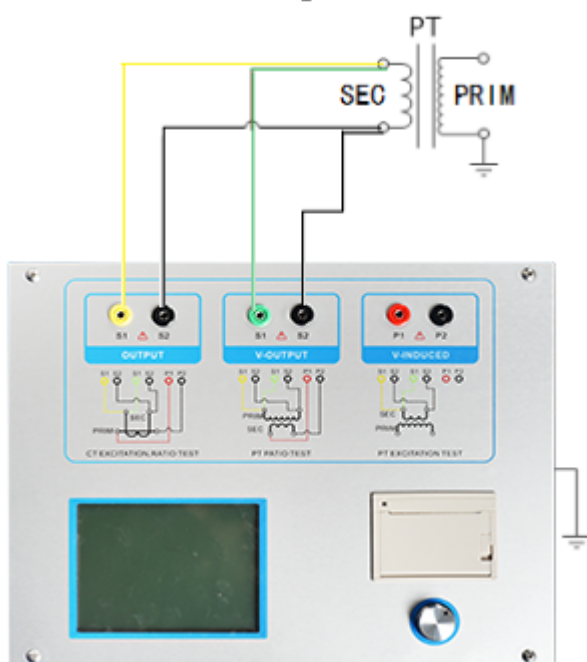
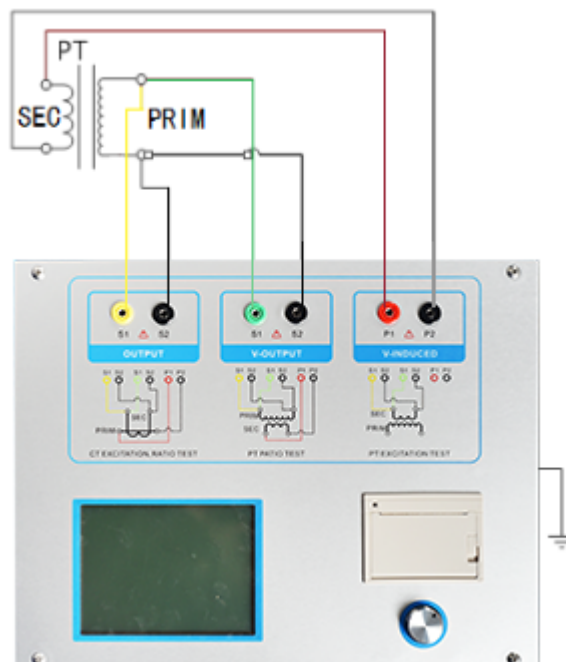

Fig 2.5 PT's DC resistance and excitation
Fig 2.6 PT's ratio and excitation
Step 1 According to PT testing program description of list 2.4, refer to figure 2.5 or figure 2.6 for wiring.